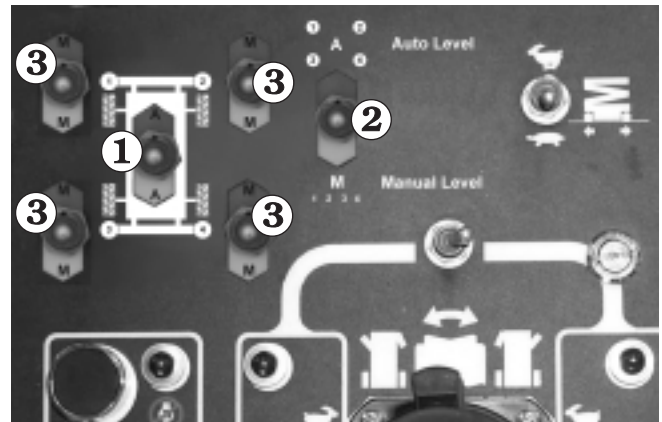

Figure 8.27
To raise or lower the outriggers 'automatically' switch ① (see Figure 8.27) is used.
- Press switch ① momentarily (3 - 4 seconds to lower the outriggers).